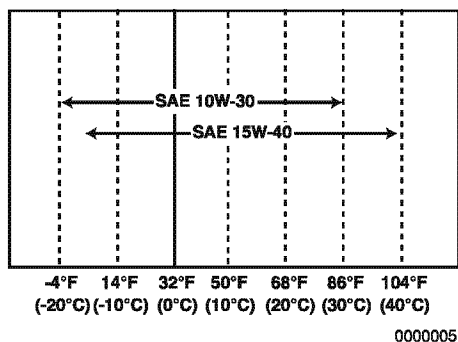

Figure 7
- Select the oil viscosity based on the ambient temperature where the engine is being operated. See the SAE Service Grade Viscosity Chart (**Figure 7**).